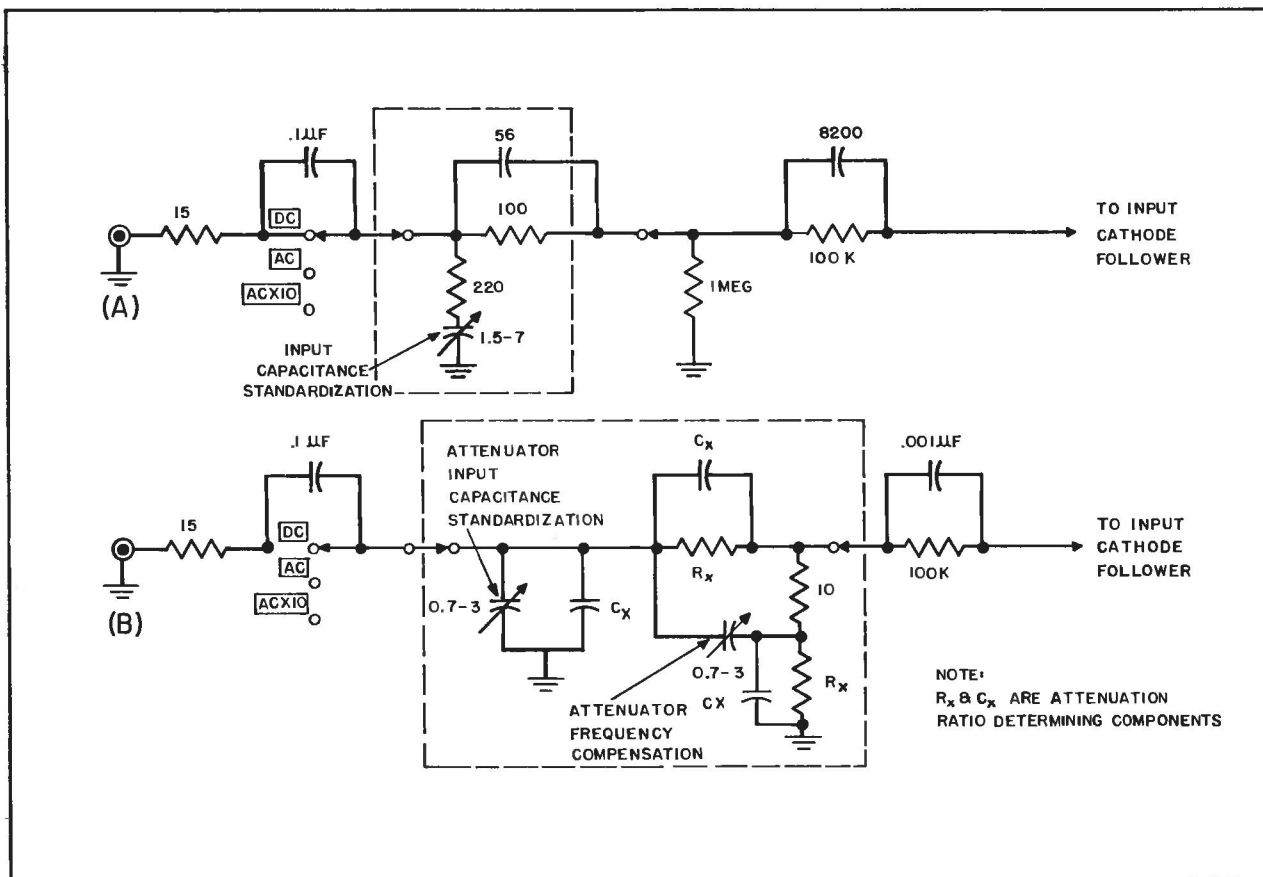

Figure 4-2. Attenuator Network Functional Schematic Diagram, AM-3568A/USM
Figure 4-2 is a partial functional schematic of the attenuator network. Two attenuator legs are shown in this illustration, Figure 4-2(A) is the attenuation leg when the SENSITIVITY switch is in the .05 V/CM position and Figure 4-2(B) is a generalized schematic of any of the other legs. The circuit inside the broken line comprises the attenuator network.
Figure 4-2(A) illustrates the most sensitive position of the SENSITIVITY switch. There is, for all practical purposes, no attenuation of the input signal in this position. Capacitor C819 is adjusted for an input Capacitance of 20 pF with the SENSITIVITY switch in the .05V/CM position.
The attenuator Input Capacitance adjustment and the attenuator Frequency Compensation adjustment are called out in Figure 4-2(B). These are adjusted in each attenuator leg for proper compensation of capacitance and frequency. C_X and R_X are the attenuator components that determine the attenuation ratio of each leg of the network from .1 V/CM to 20 V/CM.